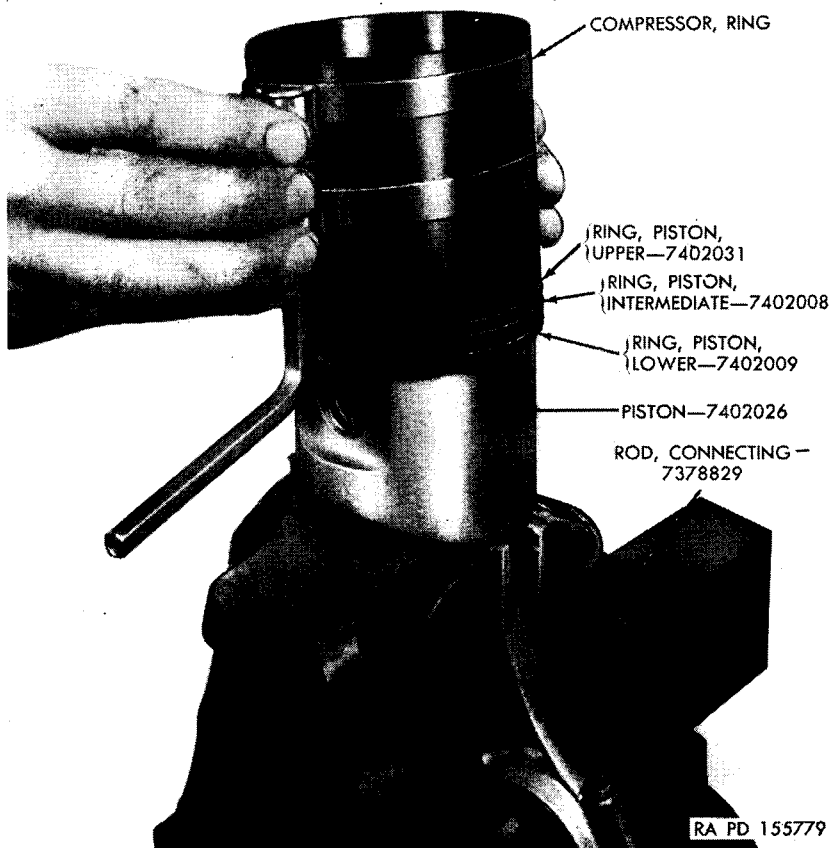

Figure 69. Assembling piston-ring compressor to piston and rings.
c. Support piston and connecting rod in soft jaws of bench vise. Apply liberal amount of engine oil to outer diameter of piston and inner surface of sleeve-type piston-ring compressor; then slide non-beaded end of compressor down over piston and rings (fig. 69). Make